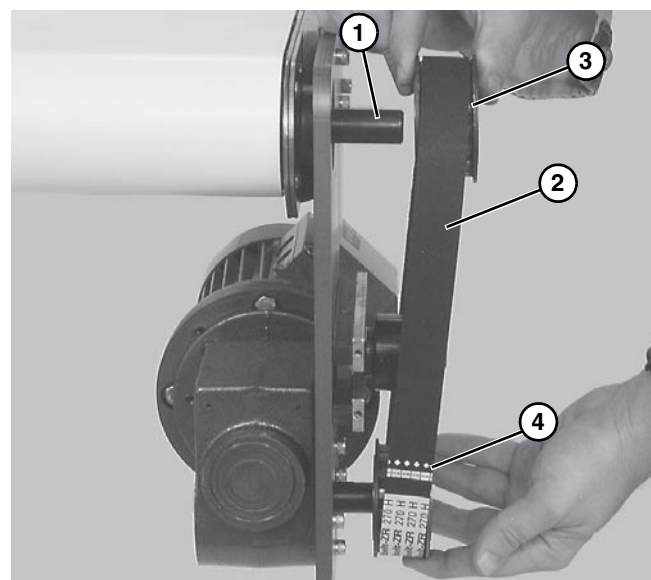

Figure 8
5. Install key (**Figure 8, item 1**).
6. Wrap timing belt (**Figure 8, item 2**) around driven pulley (**Figure 8, item 3**) and drive pulley (**Figure 8, item 4**). Install driven pulley onto conveyor shaft.